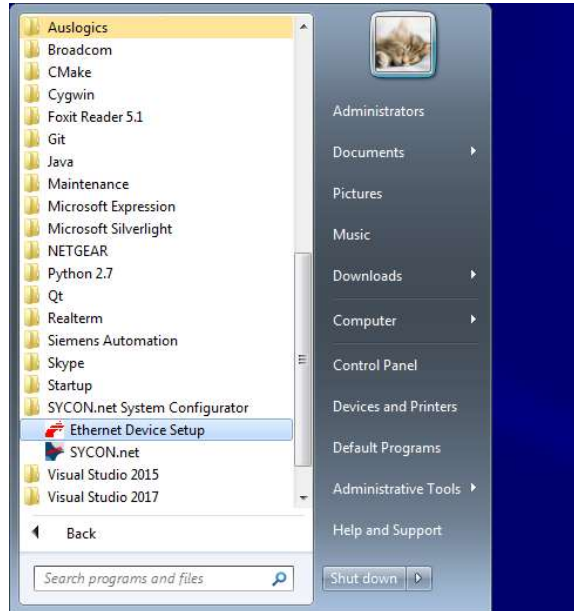

Figure 8: Ethernet Device Setup in Start Menu
2. Double-click **SYCON.net**. (For more information see Figure 8.)